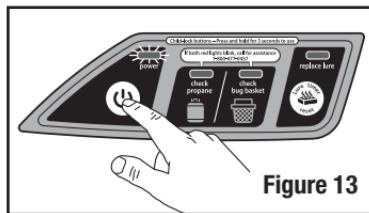

Figure 13
**4. Start Mosquito Vacuum.** This unit has child secure controls. Press and hold POWER (P) for 3 seconds to start the unit. The fan will start and POWER (P) indicator light will blink GREEN in warm-up mode until it reaches operating temperature (approximately 5 minutes) (**Figure 13**). You may hear a popping/ticking sound as the unit warms to temperature and tries to self ignite. When POWER (P) indicator light is steady GREEN, the Mosquito Vacuum is ready to lure and trap mosquitoes. If unit fails to light, the unit will automatically cycle through the start up routine two additional times. If still unable to start, the CHECK PROPANE icon and CHECK BUG BASKET icon on the User Control Panel will blink RED. See TROUBLESHOOTING in this manual or on the unit for help.